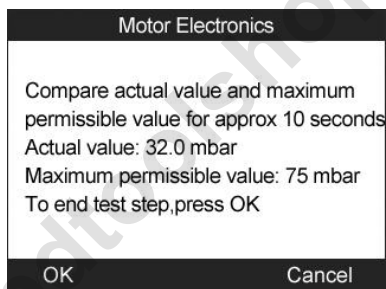

Figure 11.40
- c) Check the exhaust backpressure with engine running idle. The tool will read off the actual backpressure value and compare with the upper limit. (Figure 11.40). Select **OK** to continue the test or **Cancel** to return to previous menu.